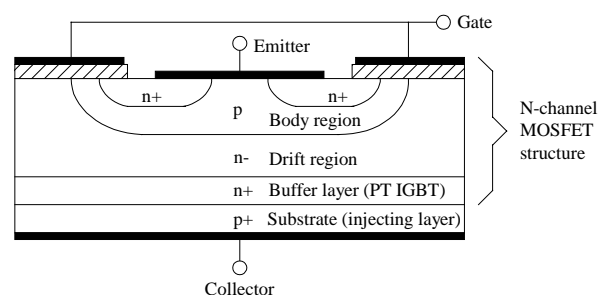
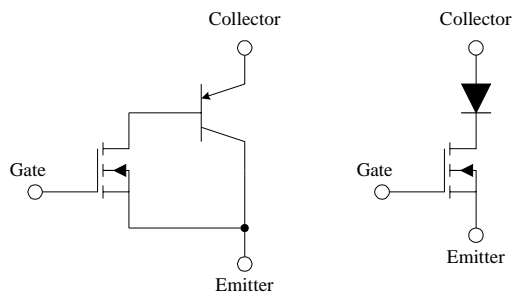
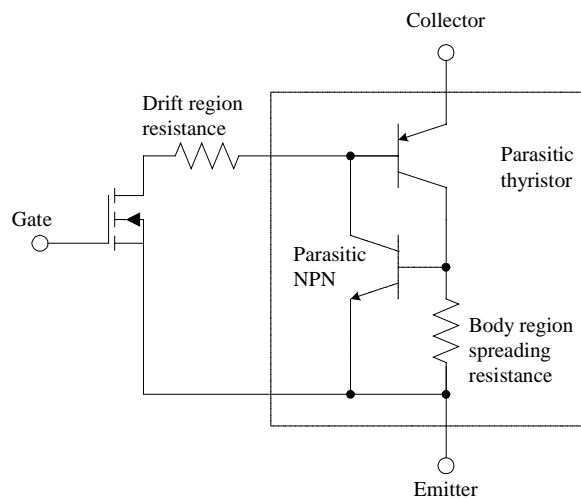

Figure 1 N-Channel IGBT Cross Section
Figure 2 IGBT Simplified Equivalent Circuits
Figure 3 IGBT Model Showing Parasitic Thyristor
An N-channel IGBT is basically an N-channel power MOSFET constructed on a p-type substrate, as illustrated by the generic IGBT cross section in Figure 1. (PT IGBTs have an additional n+ layer as well as will be explained.) Consequently, operation of an IGBT is very similar to a power MOSFET. A positive voltage applied from the emitter to gate terminals causes electrons to be drawn toward the gate terminal in the body region. If the gate-emitter voltage is at or above what is called the threshold voltage, enough electrons are drawn toward the gate to form a conductive channel across the body region, allowing current to flow from the collector to the emitter. (To be precise, it allows electrons to flow from the emitter to the collector.) This flow of electrons draws positive ions, or holes, from the p-type substrate into the drift region toward the emitter. This leads to a couple of simplified equivalent circuits for an IGBT as shown in Figure 2.
Nothing comes for free of course, and the price for lower on state voltage is slower switching speed, especially at turn-off. The reason for this is that during turn-off the electron flow can be stopped rather abruptly, just as in a power MOSFET, by reducing the gate-emitter voltage below the threshold voltage. However, holes are left in the drift region, and there is no way to remove them except by voltage gradient and recombination. The IGBT exhibits a tail current during turn-off until all the holes are swept out or recombined. The rate of recombination can be controlled, which is the purpose of the n+ buffer layer shown in Figure 1. This buffer layer quickly absorbs trapped holes during turn-off. Not all IGBTs incorporate an n+ buffer layer; those that do are called punch-through (PT), those that do not are called non punch-through (NPT). PT IGBTs are sometimes referred to as asymmetrical, and NPT as symmetrical.
The basic structure of an IGBT resembles a thyristor, namely a series of PNP junctions. This can be explained by analyzing a more detailed equivalent circuit model for an IGBT shown in Figure 3.
channel IGBTs. The base of this transistor is the body region, which is shorted to the emitter to prevent it from turning on. Note however that the body region has some resistance, called body region spreading resistance, as shown in Figure 3. The P-type substrate and drift and body regions form the PNP portion of the IGBT. The PNP structure forms a parasitic thyristor. If the parasitic NPN transistor ever turns on and the sum of the gains of the NPN and PNP transistors are greater than one, latchup occurs. Latchup is avoided through design of the IGBT by optimizing the doping levels and geometries of the various regions shown in Figure 1.